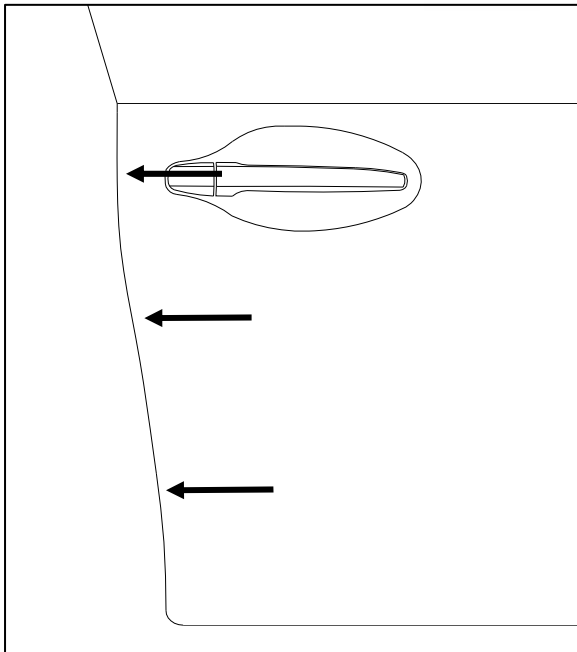

Fig. 1-1
- (a) Open front passenger door and clean and dry trailing edge of door as needed with distilled water and lint free towel. (Fig. 1-1)